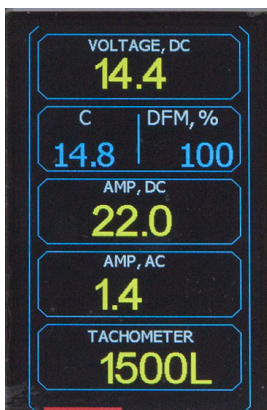

Fig. 8. Display data output when testing an alternator with C terminal
- **C:** indicator of set generation voltage when testing alternators with C terminal (Fig. 8).